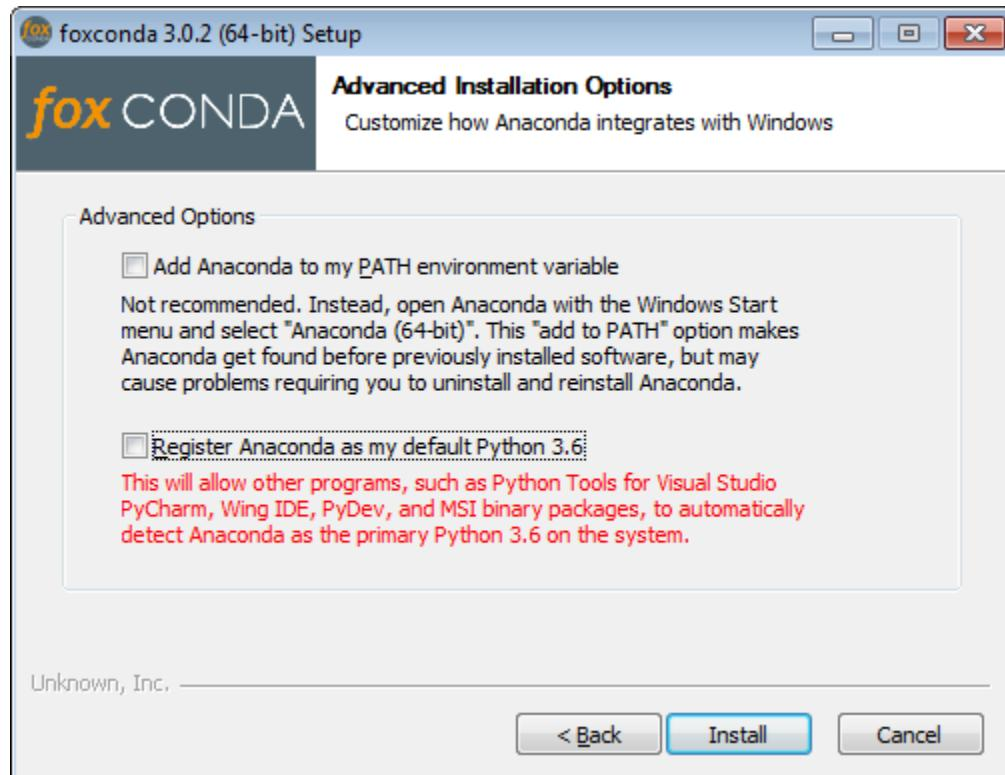

Fig. 9.5: Advanced Options
- Fig. 9.5 provides the choices for**